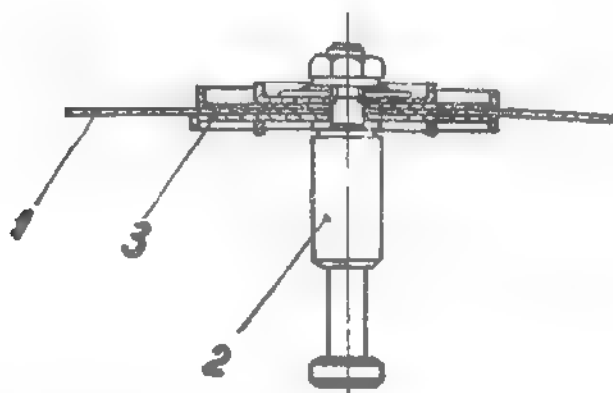

Fig. 4.4. FUEL PUMP DIAPHRAGM ASSY
On the tappet (2) - (see fig. 4.4.) - whose lower end is connected with rocker arm clevis, is fastened the diaphragm (1), between two curved washers (3) and sealing gasket.
- Unscrew the nut fastening the curved washer (3) (see fig. 4.4.) on diaphragm (1). Pay much attention on unscrewing the nut, because the spring pushes the whole assembly out from the tappet (2).